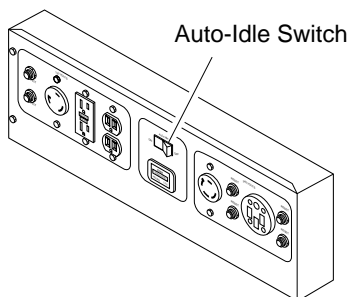

**Figure 25 - Choke Lever Opened (Model MGH7000D Shown)**
5. As engine warms up, slowly move choke lever fully to the right (see Figure 25, page 13). This opens the choke. On Model MGH10000A, the choke will automatically open.